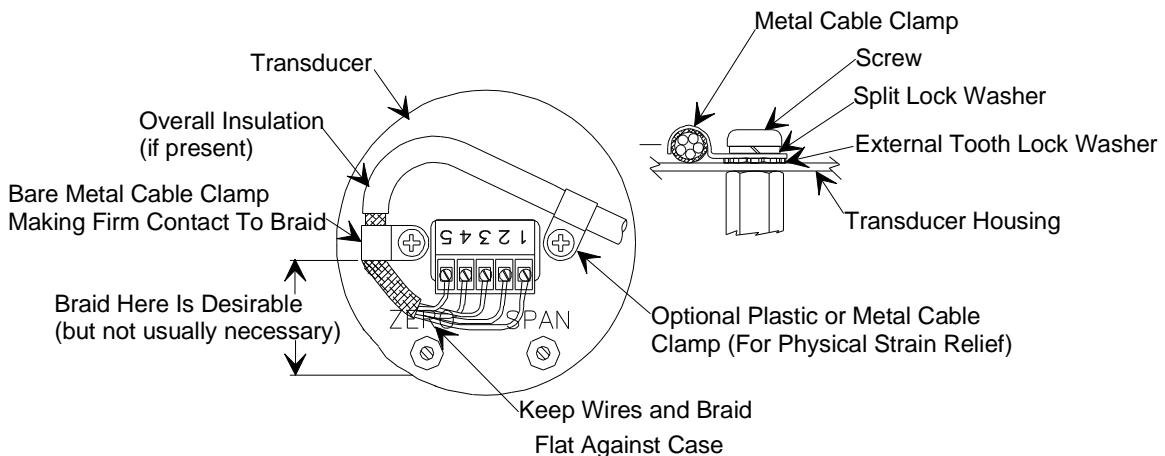
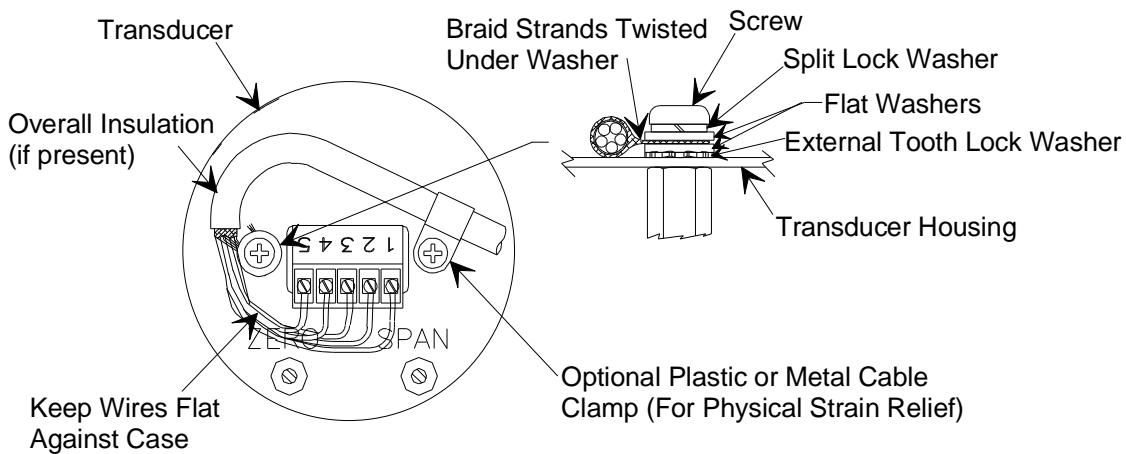

Figure 2: How To Connect the Cable to a Terminal Block (Example 1)
Figure 3: How To Connect the Cable to a Terminal Block (Example 2)
4. For shielded cables with flying leads at one or both ends; it is important at each such end, to ground the shield *before* the wires exit. Make this ground with absolute minimum length. Refer to Figures 2 and 3, page 55. (A  $\frac{1}{4}$  inch piece of #22 wire may be undesirably long since it has approximately 5 nH of inductance, equivalent to 31 ohms at 1000 MHz). After picking up the braid's ground, keep wires and braid flat against the case. With very few exceptions, grounded metal covers are not required over terminal strips. If one is required, it will be stated in the Declaration of Conformity or in the instruction manual.
The cable to the terminal block connector must be firmly attached to the top of the transducer, in order to comply with CE Mark requirements. Figure 2 shows the preferred method to connect the cable; using a metal cable clamp to affix the cable to the transducer. Figure 3 shows an alternate method; wrapping the braided shield under the screw. Both examples show the cable securely clamped to the transducer.
Check the transducer zero prior to the initial operation and then periodically as required. The zero can be set (or reset) by adjusting the zero potentiometer located on the top cover of the transducer or, on the front panel of an MKS Power Supply/Readout, if you are using one. Refer to Figure **Error! Bookmark not defined.**, page 45, for the location of the zero potentiometer on a low pressure 722C transducer; Figure 3, page 46, for a high pressure 722C transducer.